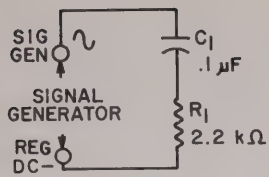

FIGURE 1-1
1. Set up the circuit shown in Figure 1-1 on your design console. No layout is given since the circuit is quite simple. Be sure to use the sinewave output of the audio signal generator. The common terminal for the audio signal generator is the Regulated DC Negative Terminal.
3. Turn on the design console. The ADJUST VOLTAGE control can be set fully counterclockwise since the low voltage supply is not used. Set the audio signal generator frequency control (ADJUST FREQ.) to 0. Using the output function on your multimeter, measure the voltages across R_1 and across C_1 in the circuit of Figure 1-1. Record the values in the first row of the chart of Figure 1-2.